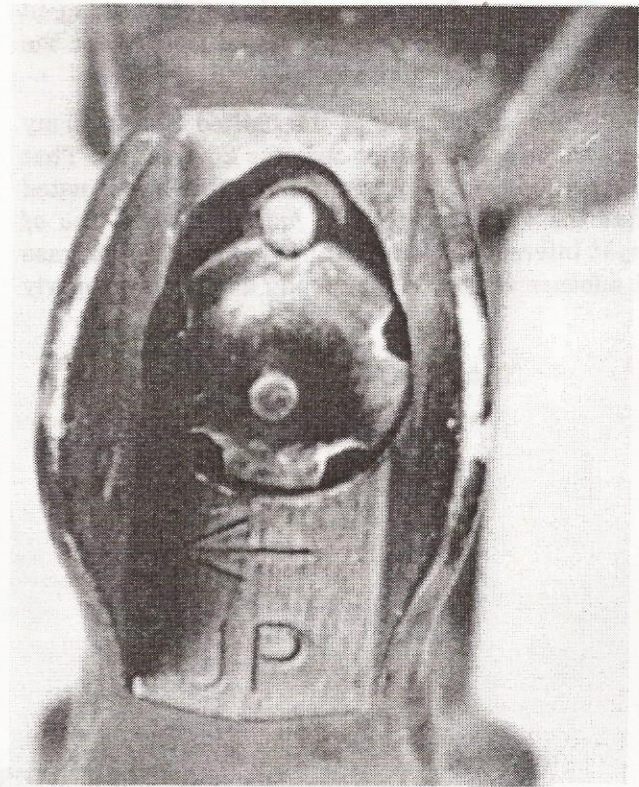

Figure 62. Front sight.
b. The front sight consists of a rotating sight post with a spring loaded detent (fig 62). Adjustments are made by using a sharp instrument, or the tip of a cartridge. To raise or lower the front sight posts, depress the spring loaded detent and rotate the post in the desired direction of change.